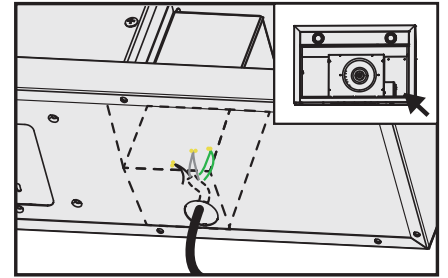

Figure 9
- **AVERTISSEMENT : TOUS LES CONNECTEURS DOIVENT ÊTRE EN FERMÉS DANS LE COMPARTIMENT DU CÂBLAGE. (Voir figure 9)**